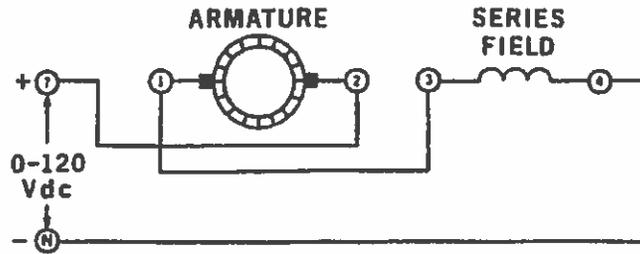
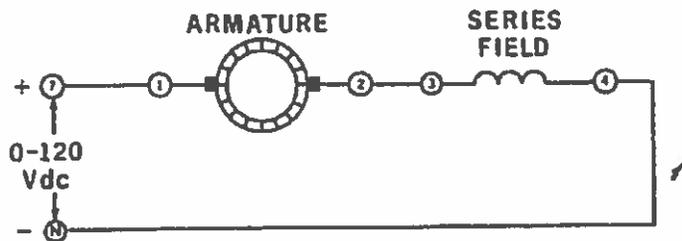

Figure 12-3.
Figure 12-2.
5. Using your Power Supply, DC Voltmeter/Ammeter and DC Motor/Generator, connect the circuit shown in Figure 12-2. Notice that the armature is connected in series with the series field winding, across the input voltage.
10. Repeat procedures 6 through 8 (using the reversed armature connections shown in Figure 12-3).
9. Reconnect your circuit as shown in Figure 12-3. (The only change made to the circuit of Figure 12-2 is that the connections to the armature have been reversed).